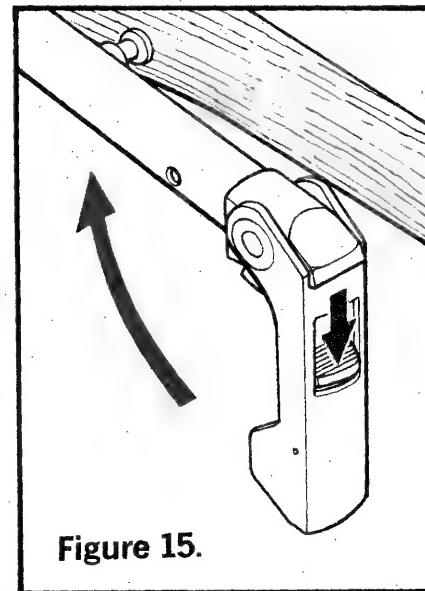

Figure 15.
2. Press downward on the Butt Plate Latch and swing Butt Plate upward so that it latches over the Catch Stud which protrudes from the side of the wooden stock as shown in Figure 15.